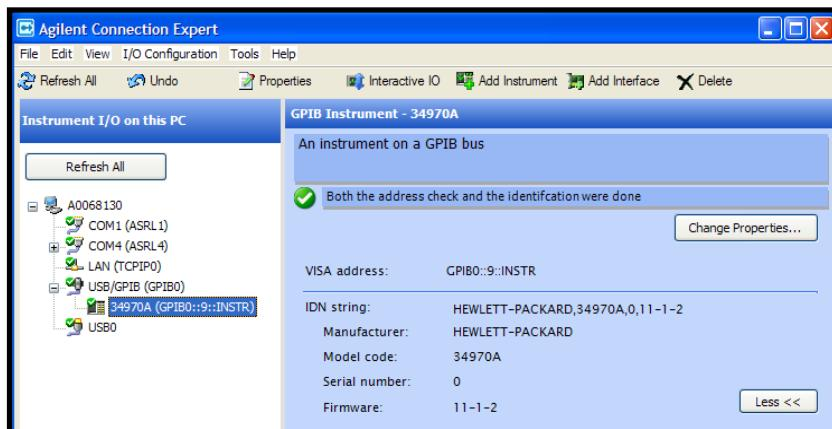
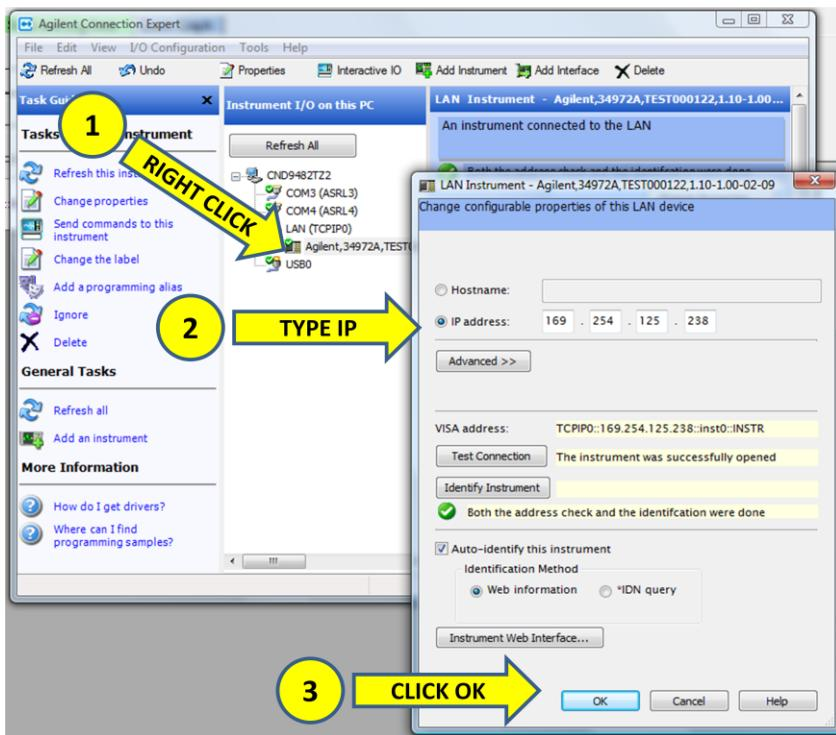

Figure D3– ACE correctly displaying a instrument (USB/GPIB in this case)
Figure D4– In some cases it may be necessary to directly type in the IP address
- 9) Instrument should appear with green checkbox  as shown in figure D3. If the green checkbox is not present and instead a red box , there is a communications problem. You must stop and determine the cause of the problem before you continue. Consider manually typing in the IP address as shown in figure D4.